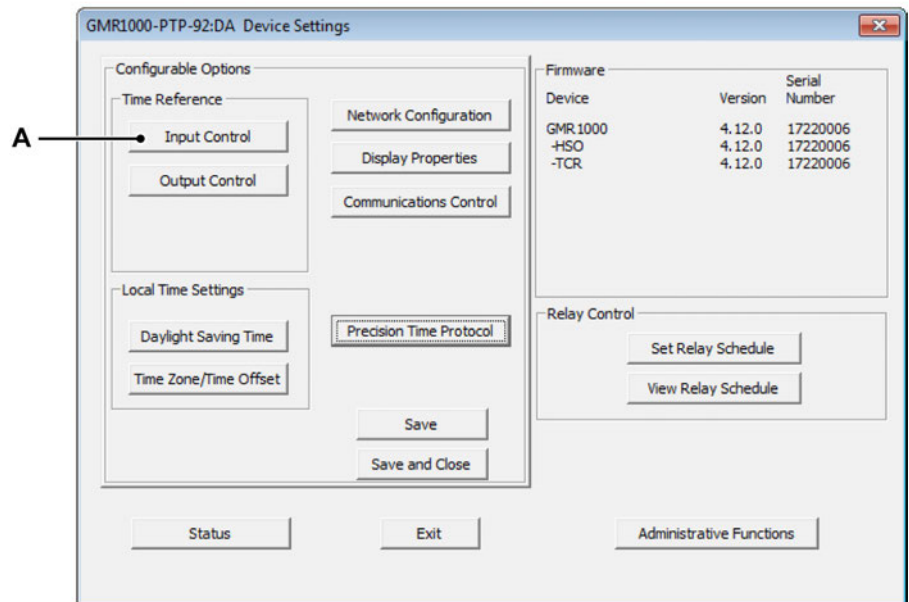

Figure 14.71: GMR1000 PTP Device settings
- 2 Expand the tree in the **Device Configuration Utility** until the specific device is found, which is part of the GMR1000 Master reference -> GMR1000 PTP Server family. Once found, click on the device, this will open the device settings window (see Figure 14.71).